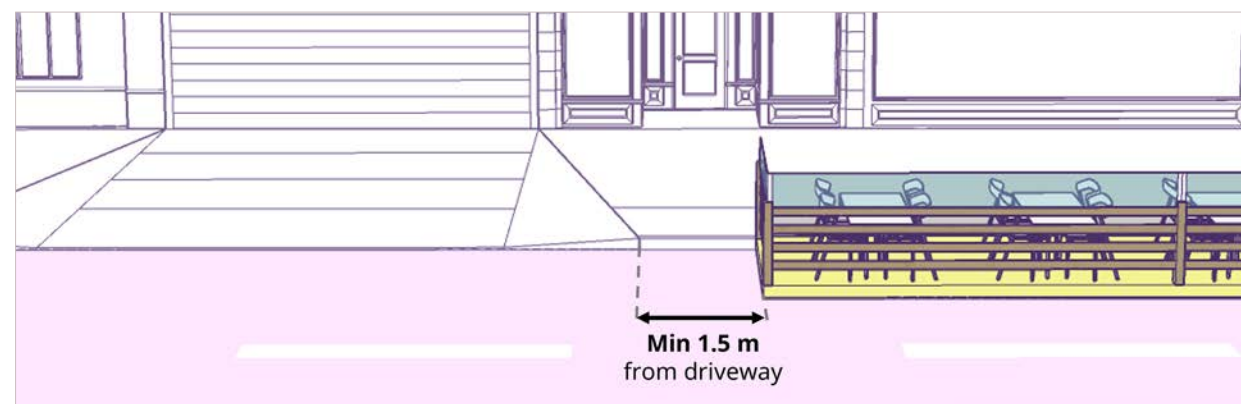

Figure 5: Clearance from a driveway
- e. A minimum **1.5 m** from a driveway (see *Figure 5*).